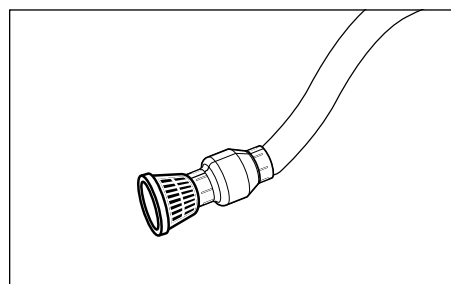

Figure 2
- A check valve must be used in the suction line to maintain the self-priming capability. If no check valve is used the pump will need to be primed at the start of each operation. For best operation, the check valve should be installed at the intake of the suction line.(Figure 2).